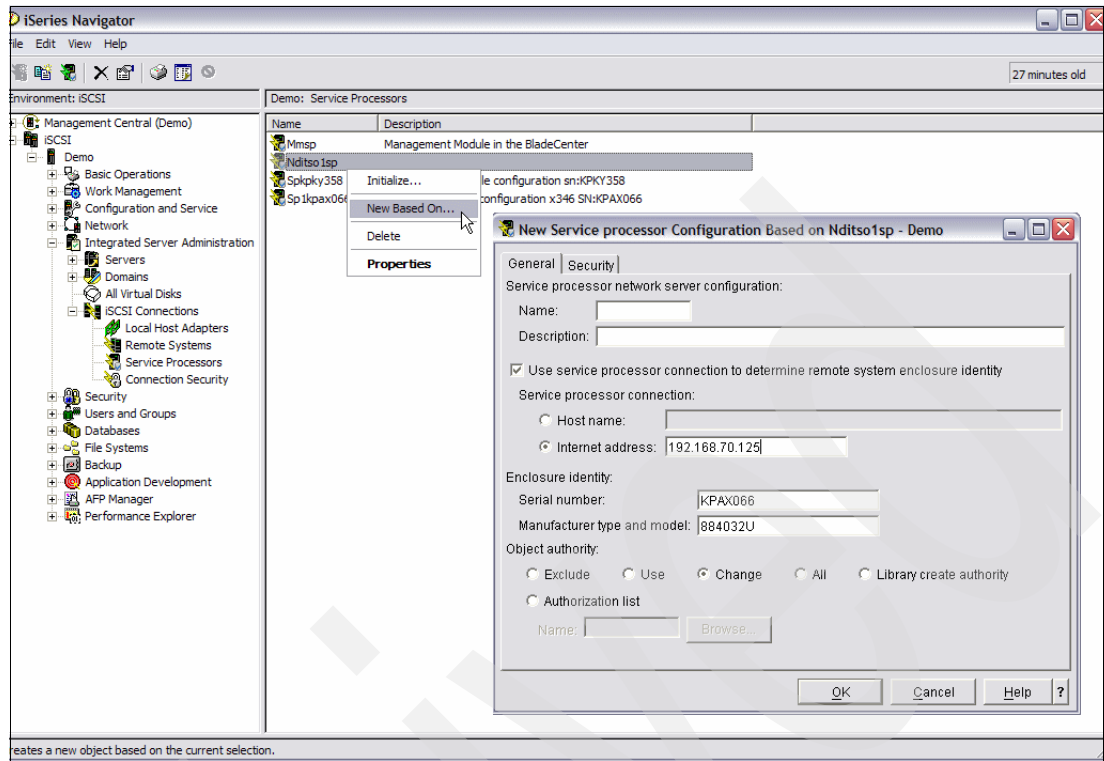

Figure 6-31 New Based on option on a Service processor configuration
- Click **Service Processors** and right-click the Service processor configuration at the right pane, which you want to copy from and select **New Based On**. See Figure 6-31 on page 179.